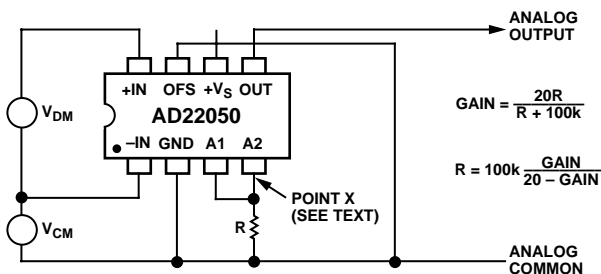

Figure 4. Achieving Gains Less Than  $\times 20$
**Decreasing the Gain.** See Figure 4. Since the output of the preamplifier has an output resistance of  $100 \text{ k}\Omega$ , an external resistor connected from Pin 4 to ground will precisely lower the gain by a factor  $R/(100\text{k}+R)$ . When configuring the AD22050 for any gain, the maximum input and the power supply being used should be considered, since either the preamplifier or the output buffer will reach its full-scale output (approximately  $V_S - 0.2 \text{ V}$ ) with large differential input voltages. The input of the AD22050 is limited to no greater than  $(V - 0.2)/10$ , for overall gains less than 10, since the preamplifier, with its fixed gain of  $\times 10$ , reaches its full scale output before the output buffer. For  $V_S = 5 \text{ V}$  this is  $0.48 \text{ V}$ . For gains greater than 10, however, the swing at the buffer output reaches its full-scale first and limits the AD22050 input to  $(V_S - 0.2)/G$ , where  $G$  is the overall gain. Increasing the power supply voltage increases the allowable maximum input. For  $V_S = 5 \text{ V}$  and a nominal gain of 20, the maximum input is  $240 \text{ mV}$ .
The overall bandwidth is unaffected by changes in gain using this method, although there may be a small offset voltage due to the imbalance in source resistances at the input to A2. In many cases this can be ignored but, if desired, can be nulled by inserting a resistor in series with Pin 4 (at "Point X" in Figure 4) of value  $100 \text{ k}\Omega$  minus the parallel sum of  $R$  and  $100 \text{ k}\Omega$ . For example, with  $R = 100 \text{ k}\Omega$  (giving a total gain of  $\times 10$ ), the optional offset nulling resistor is  $50 \text{ k}\Omega$ .